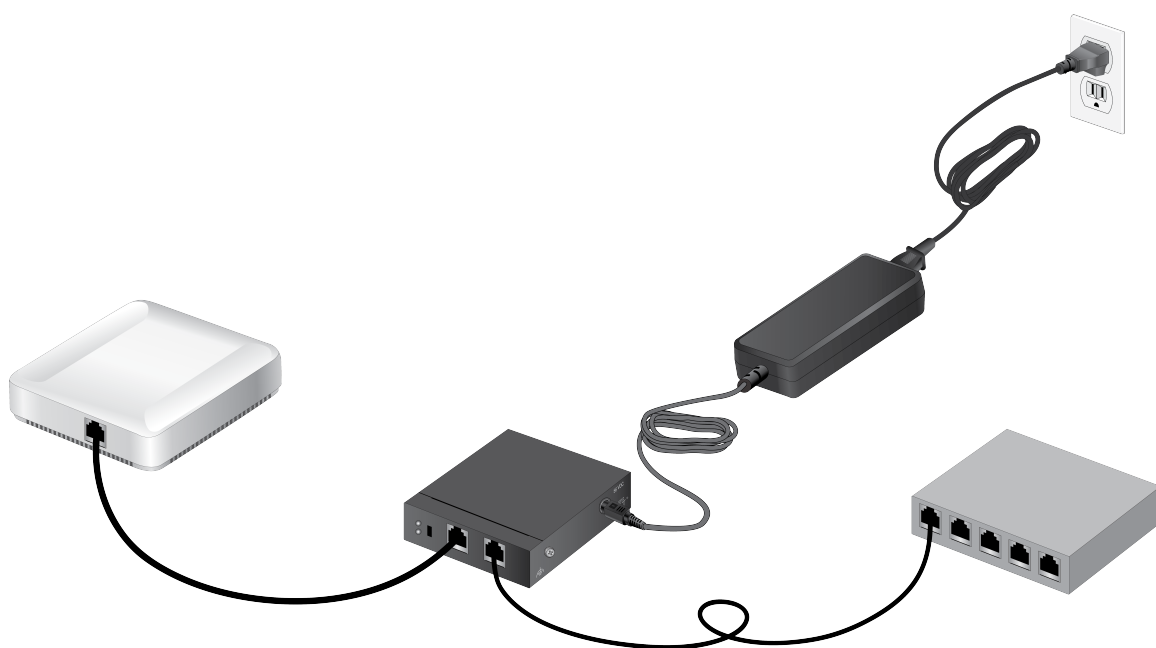

Figure 6. Example of the AT-7101GHTm Usage
The AT-7101GHTm PoE Injector is to be installed between a non-PoE capable switch and a Powered Device (PD) such as a wireless access point or IP camera. See Figure 6 as an example.